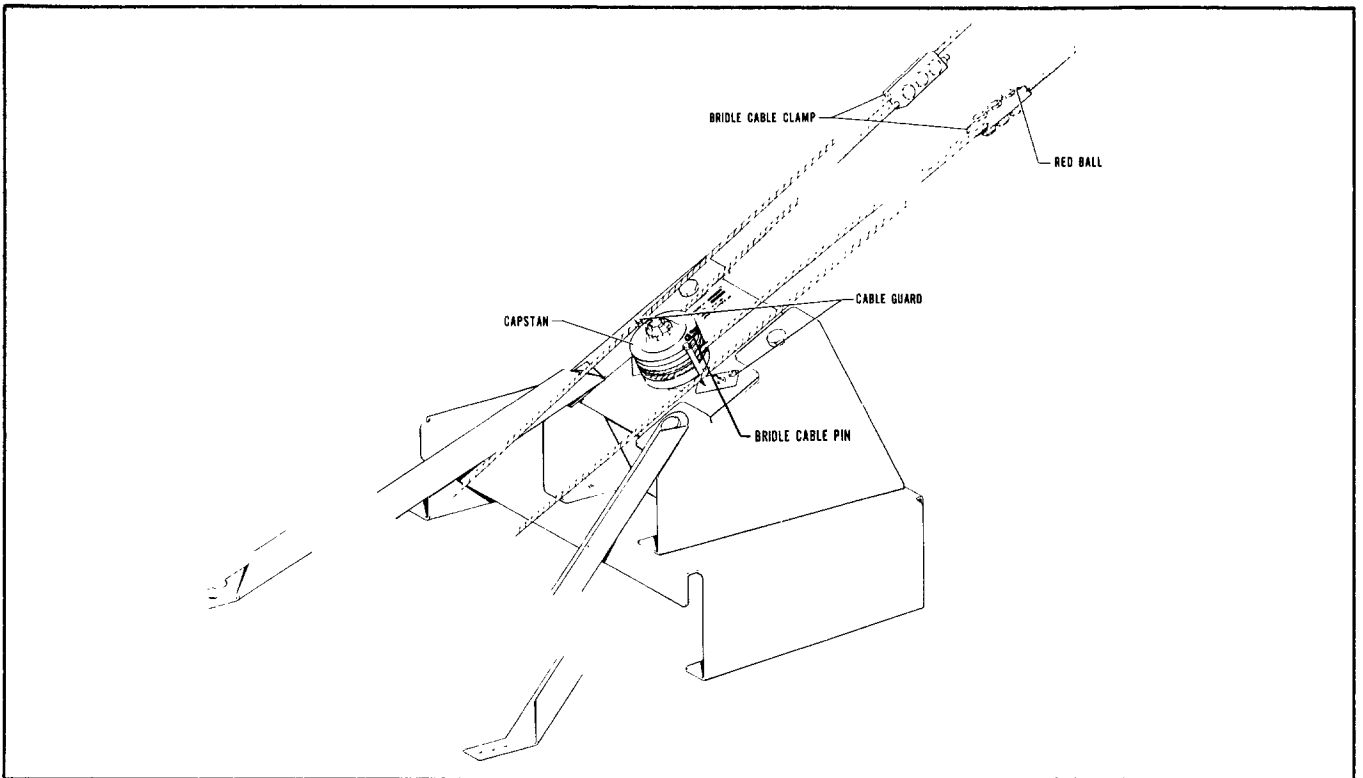

Figure 3-24. Rudder Servo Installation, PA-31-310, PA-31-325, PA-31-350 and PA-31P
**3-50. INSTALLATION OF RUDDER SERVO. (PA-31-310, PA-31-325, PA-31-350 and PA-31P) (Refer to Figure 3-24.)**
e. REFER TO FIGURE 3-9 AND CHECK THAT THE CONTROL CABLE TENSION (Z) IS ADJUSTED TO  $25 \pm 2$  POUNDS PRIOR TO ATTACHING THE BRIDLE CABLE CLAMPS. Ascertain the area on the cable where the clamp attaches is clean, dry and free of all lubricants and anti-corrosive additives. Attach the bridle cable to the rudder control cables. The bridle cable is drawn to the rudder control cables and attached with clamps at the previously painted locations on the control cables. The end of the bridle cable with the red ball attaches to the RIGHT control cable. (Should the rudder cables not be painted, position the rudder in neutral and the bridle cable pin installed in the capstan as shown in Figure 3-24.) Adjust the bridle cable clamps, so that the bridle cable tension (Y) as shown in Figure 3-9 is  $15 \pm 2$  -